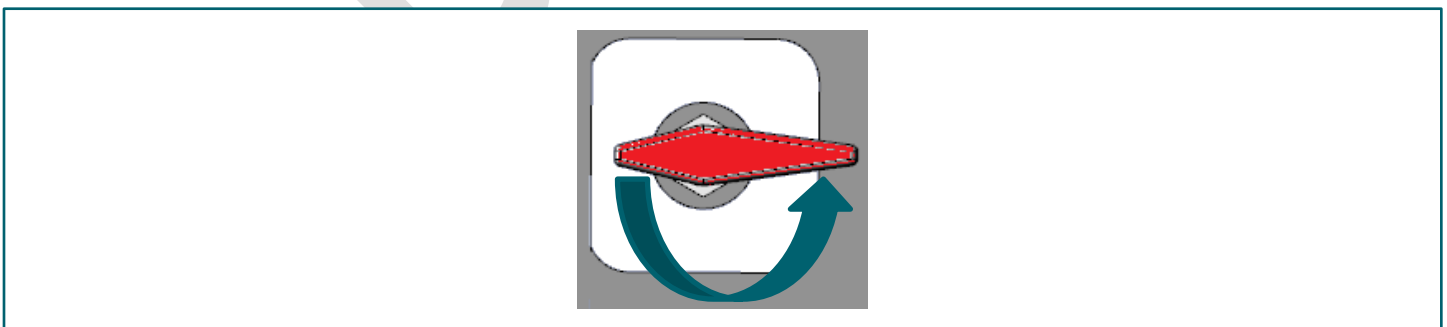

FIGURE 3-16. 1/4-turn manual shutoff valve in OPEN position
e. **Once repair is complete**, open 1/4-turn manual shutoff valve and proceed to Step 16. **FIGURE 3-16**